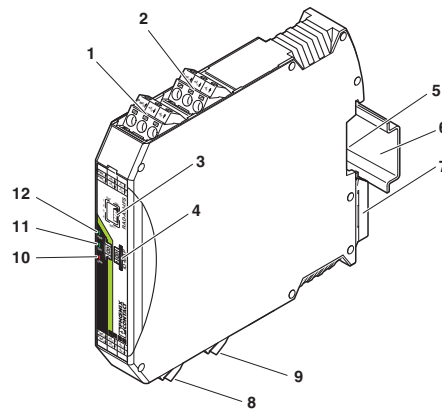

Figure 8-1 RAD-AI4-IFS structure
A supply voltage of at least 12 V DC is available at connection terminal block PWR1 for passive sensors (see Figure 8-1, item 1).